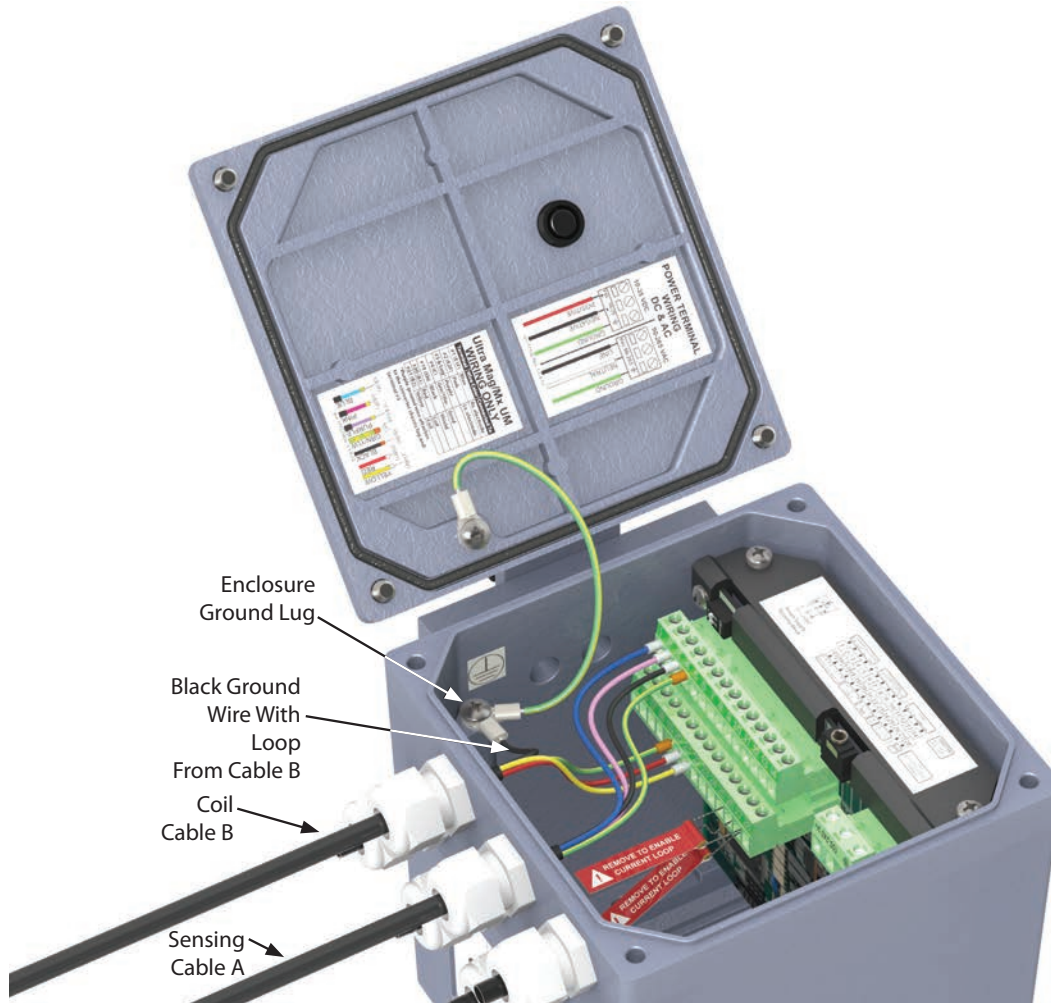

Figure 8. Converter Grounding With Cable Lug
***IMPORTANT:** See Section 3.4, "Converter Grounding", Figure 8 for instructions on attaching the chassis ground wire to the converter ground lug.
The sensor cable has a ground wire fitted with a loop. Attach the wire with the loop to the enclosure's ground terminal lug as shown in Figure 8.